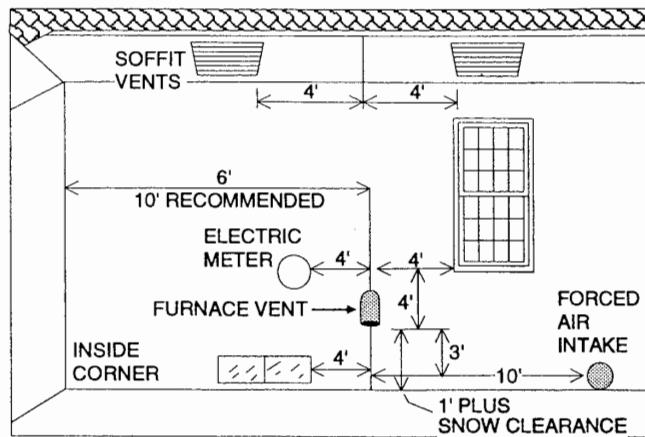

FIGURE 17 - VENT TERMINAL CLEARANCES (1-PIPE SYSTEM)
1. Comply with all clearance requirements as shown in Figure 17.
The vent must be installed with the following minimum clearances (Figure 17), and complying with local codes or utility requirements or other authority having jurisdiction.